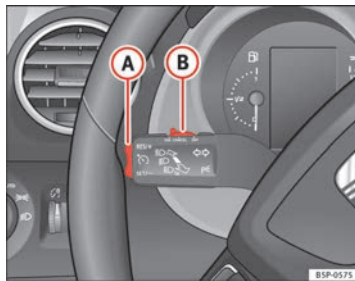

Fig. 153 Turn signal and main beam headlight lever: switch and rocker switch for the cruise control
- Push the switch ⇒ fig. 153 **(A)** to the left to **ON**.